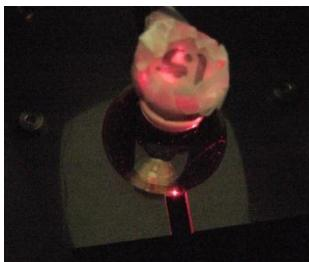
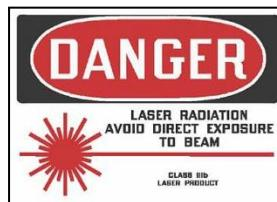

Figure 28 – MIT Vial Incorrectly Oriented with Unacceptable Glare
Figure 29 – MIT Vial Correctly Oriented with Acceptable Glare
4. Rotate the MIT Vial and stop at a point where laser glare on the MIT Vial is minimal. See Figure 28 and Figure 29 for unacceptable and acceptable glare.